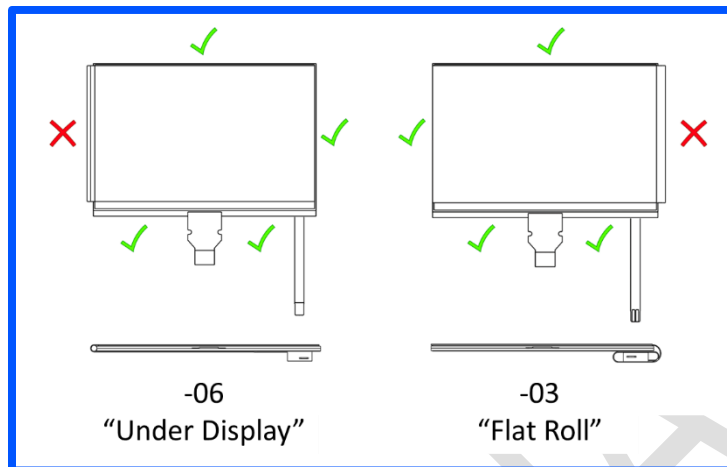

Figure 13. Identification of edges to be used for handling and mounting Azumo LCD 2.0 in final product.
8. When handling the product, grasp onto the LCD edges that are not covered by the FLP (see Fig. 13).